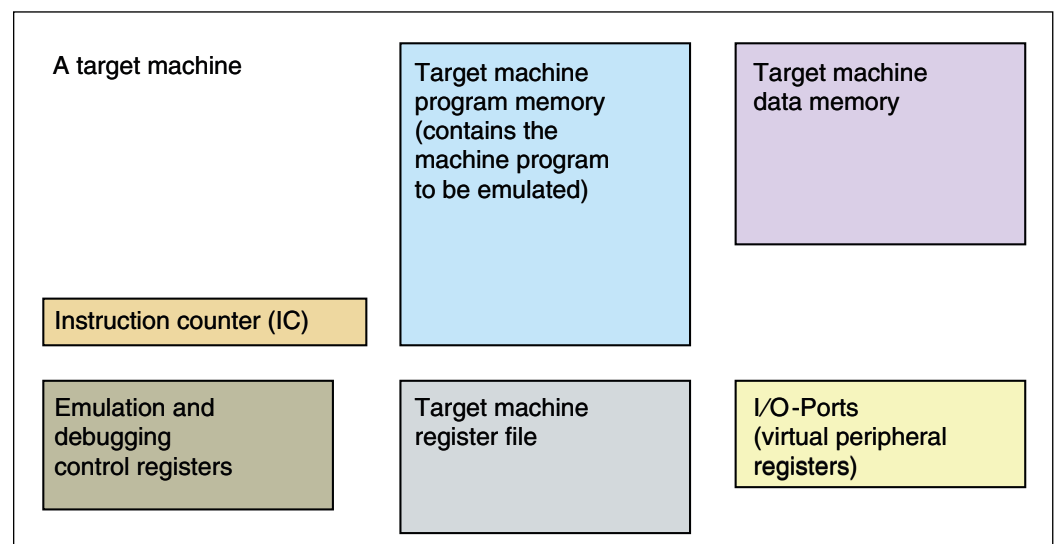
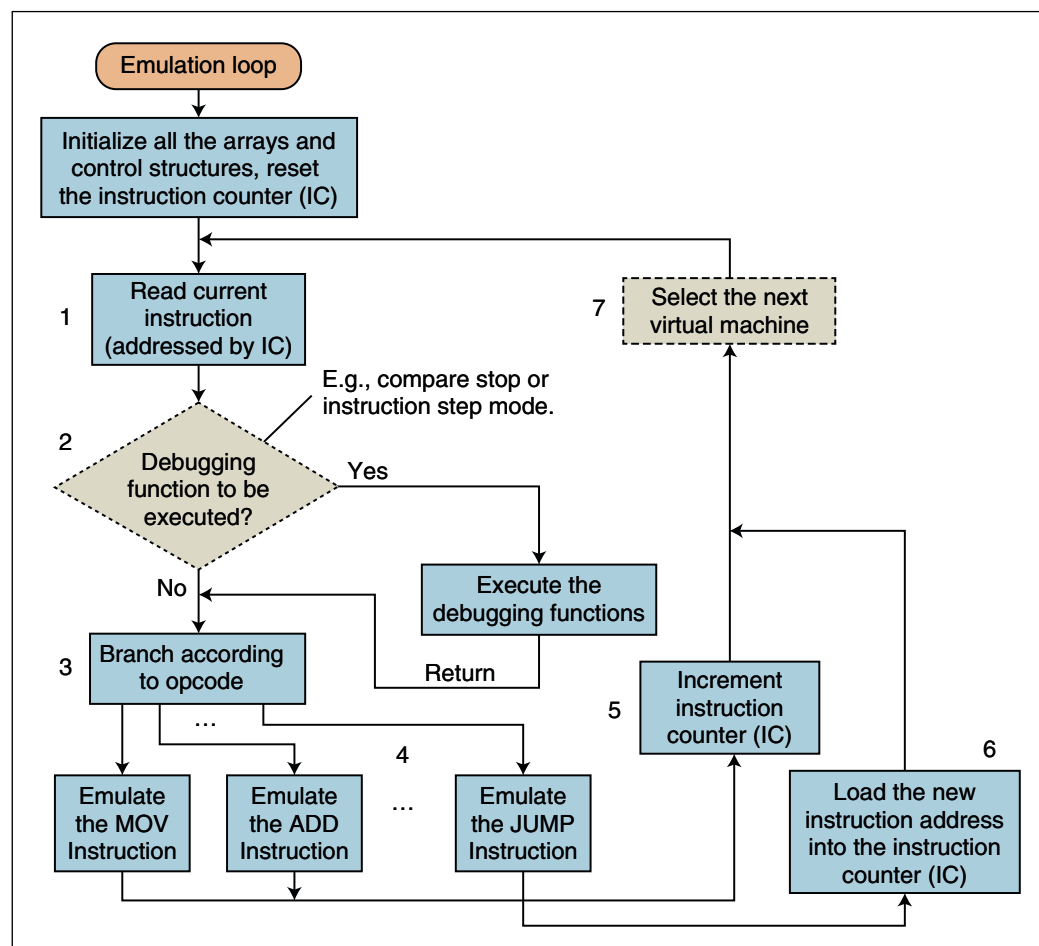

FIGURE 1
FIGURE 2
Emulation: An emulator is a program that implements the functions of a processor architecture by software. The machine running the emulator is the host. Its architecture is the host architecture. And the architecture to be emulated is the target architecture. The target instructions are not invoked by instruction fetches of the host machine. Instead, these instructions are treated as data structures, which the emulator program addresses. The other architectural features of the target architecture are represented as well with stored data structures, especially arrays (**Figure 1**).
In principle, an emulator is a fairly simple program loop (**Figure 2**). The program to be
A typical emulator loop is shown here as a flowchart. (1) Fetching the instruction of the target machine. The program memory array (see Figure 1) will be addressed by the target machine's instruction counter (essentially, a stored integer variable). (2) Debugging functions are executed, if so desired. (3) To invoke the emulation routine of the particular instruction, the instruction's operation code is used to address a branch table. (4) Each of the target machine's instructions has its own emulation routine. (5) If the current instruction is no branch or call, then the instruction counter will be incremented to address the next instruction. (6) Branch, jump and call instructions will load a new instruction address into the instruction counter. (7) If the emulator supports multiple virtual machines, the next virtual machine to serve will be selected.
Furthermore, emulation can easily support multiple virtual target machines. It's only necessary to provide the data structures shown in Figure 1 and to switch the emulator loop appropriately. This is already depicted in Figure 2 (block 7). All that said, there is a principal downside: Emulation is slow. A typical target instruction will require from about 10 to more than 50 host instructions. So, it only makes sense to resort to this principle when such lower speeds aren't an impediment.